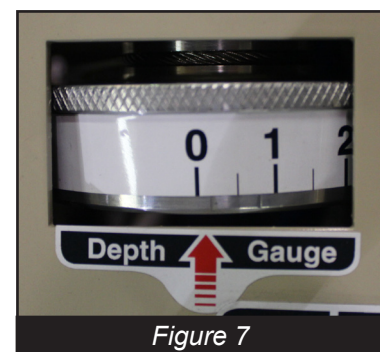

Figure 7
- Set the Depth Gauge (Figure 7) at ZERO .